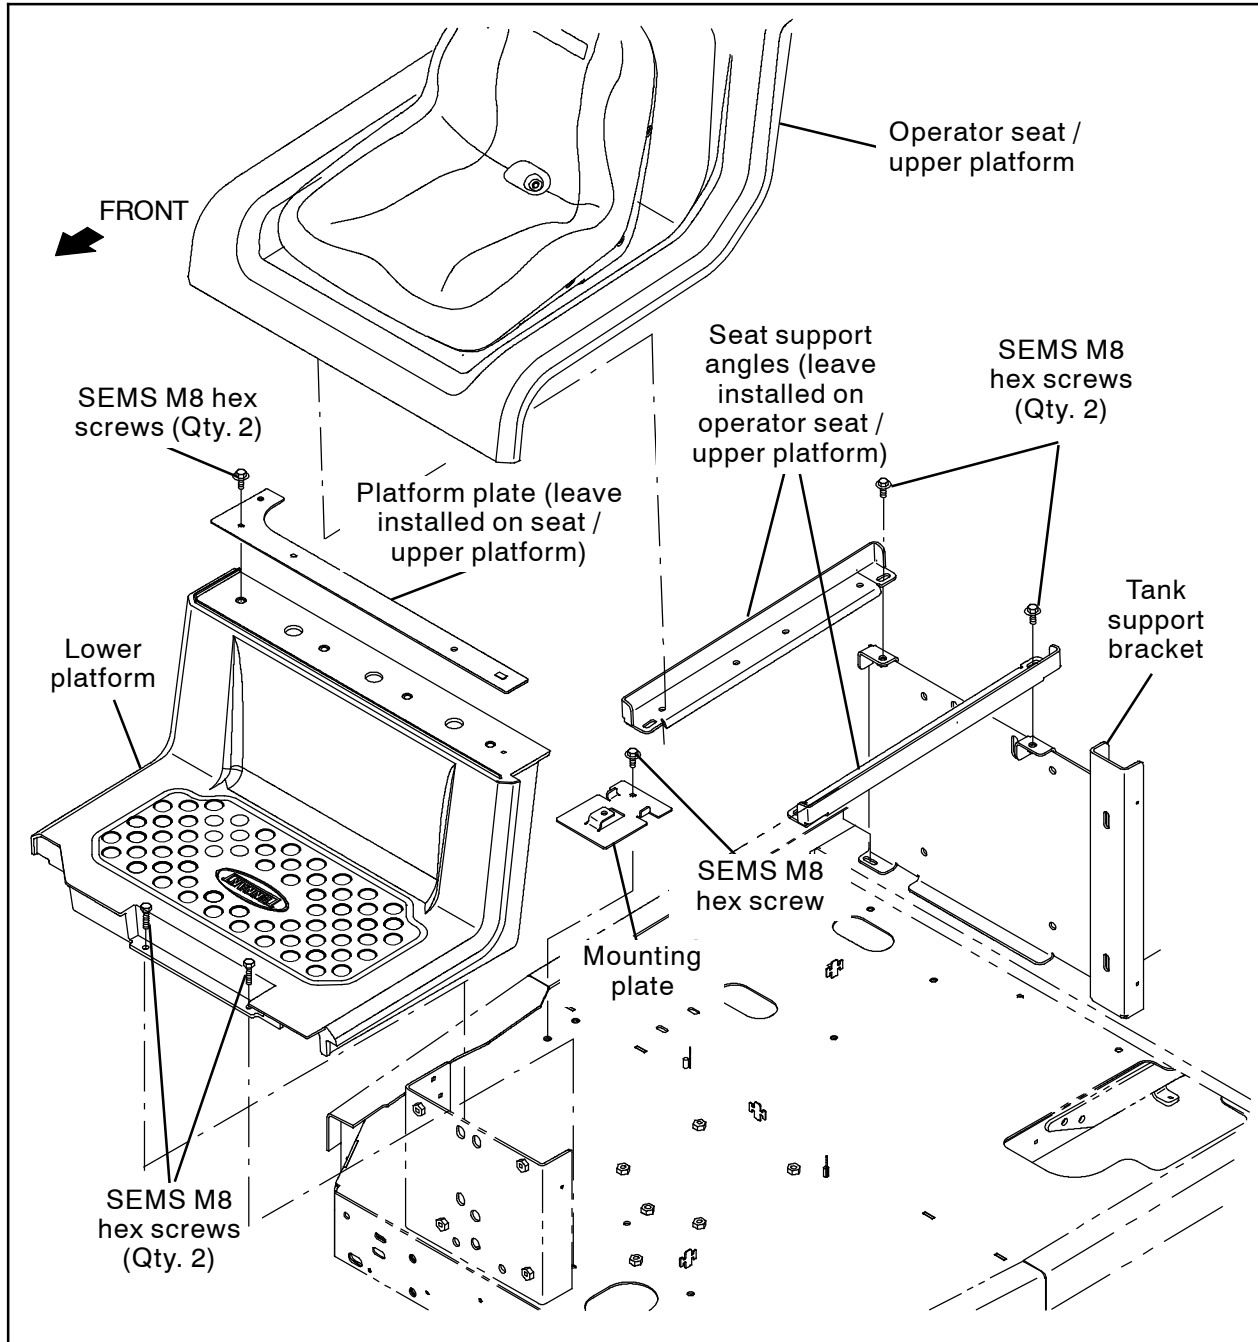

FIG. 2
6. Remove the seat / upper platform and lower platform from the machine. Set the seat / upper seat platform, lower platform, and all hardware aside. (Fig. 2)
19. **Machines not already equipped with rear camera cable only:** Reinstall the seat / upper platform and lower platform onto the machine. (Fig. 2)